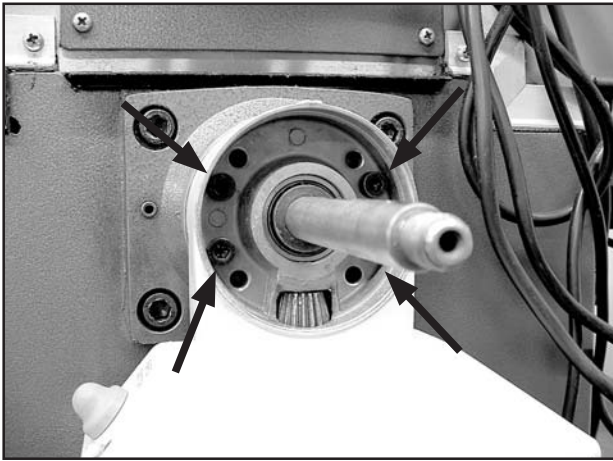

Figure 91. Locations of Y-axis power feed mounting cap screws.
7. Use a 5mm hex wrench to remove the four cap screws that secure the power feed assembly to the mill (see **Figure 91**).